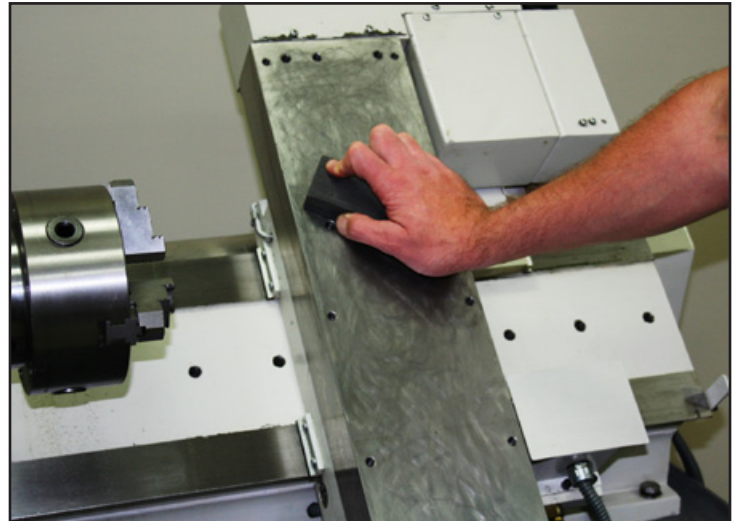

Figure 1
1. Prior to turret installation, clean the lathe's slant bed with a machinist stone or similar (see **Figure 1**). Surface should be free of burrs or debris. Repeat the same procedure for the bottom of the turret.